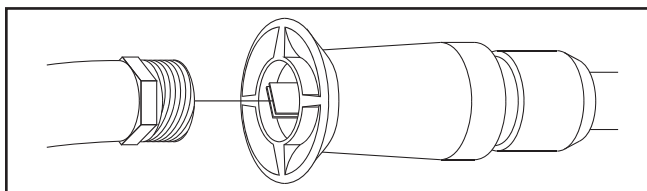

Figure 33 — Backflush the Nozzle
5. Using a garden hose, remove additional debris by back flushing water through nozzle extension (see Figure 33). Back flush between 30 to 60 seconds. Turn adjustable nozzle extension to stream spray and move nozzle from low to high while flushing.